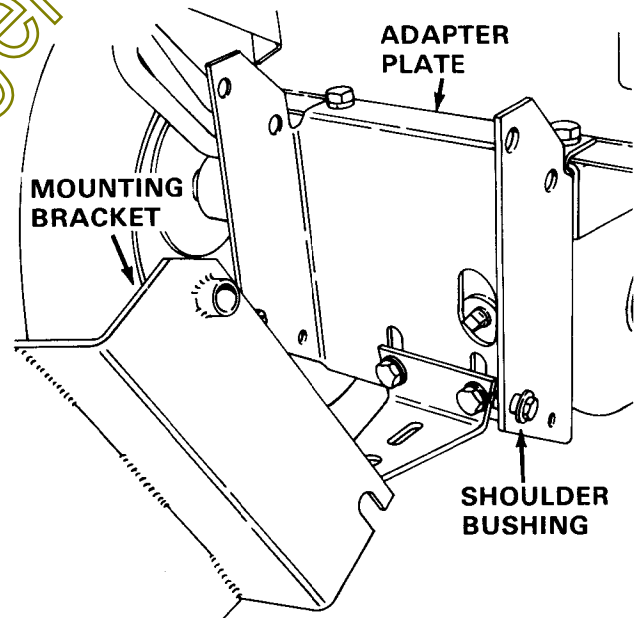

FIGURE 8
1. Attach adapter plate to rear of tractor as shown in Figure 8. Use the longer bolts provided. Reinstall the drawbar.